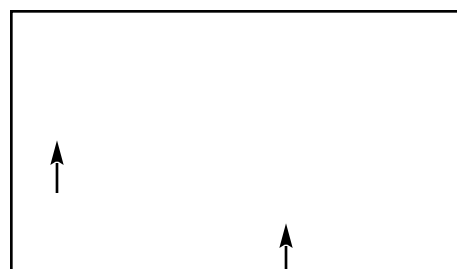

Figure 18
2. Pull storage ring upward to fit snug against body of foot pump. (See Figure 18.)